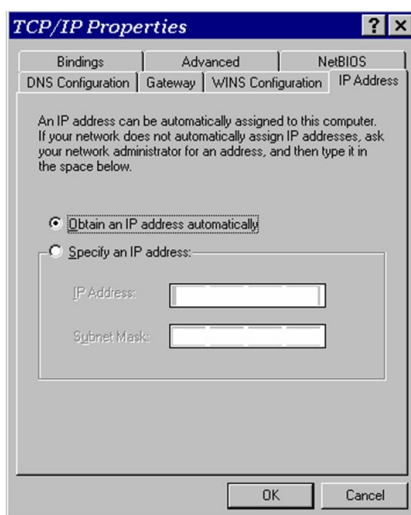

Figure A-1: TCP/IP Properties Window
2.2 Select TCP/IP properties of your LAN card. The window shown in **Figure A-1** will appear: